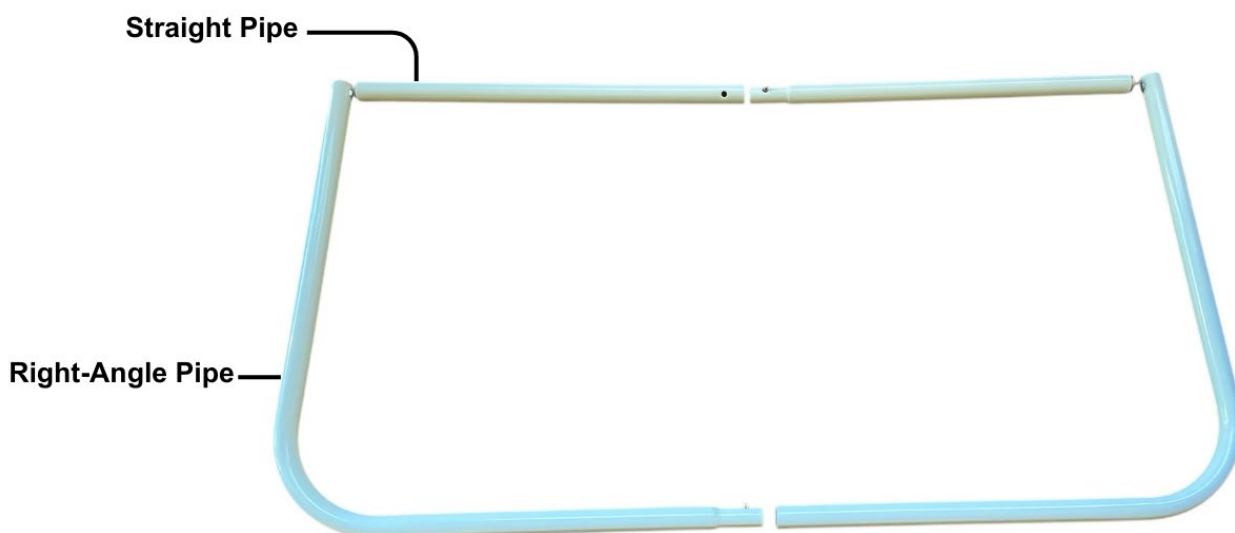

Figure 5: Metal pipes (unconnected)
The metal pipes are white powder-coated steel pipes that make up the base of the frame system. There are two types of metal pipes: (1) two straight pipes and (2) two right-angle pipes (see Figure 5).